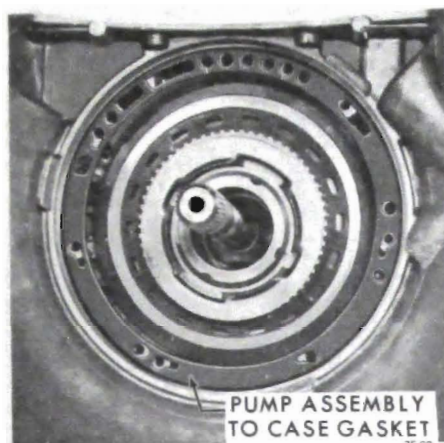

Figure 75-265
1. Install new pump assembly to case gasket. See Figure 75-265.